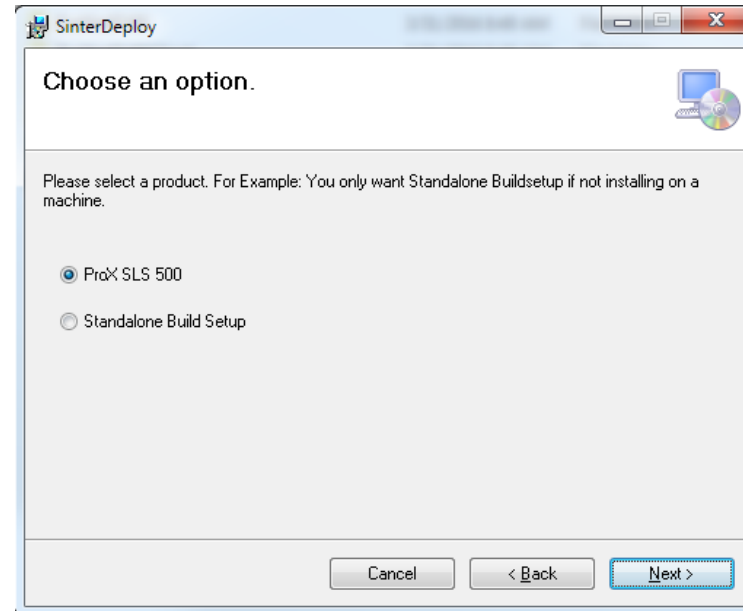

Figure 4
8. Following dialog box will appear (Figure 4).